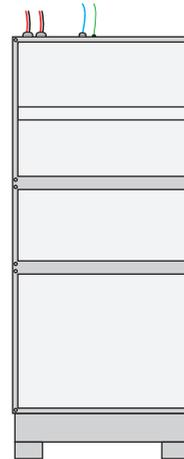

Figure 4: Battery Enclosure with the feet attached and ready for installation.
3. Once the feet are fixed, the battery enclosure is ready for installation as shown in Figure 4.